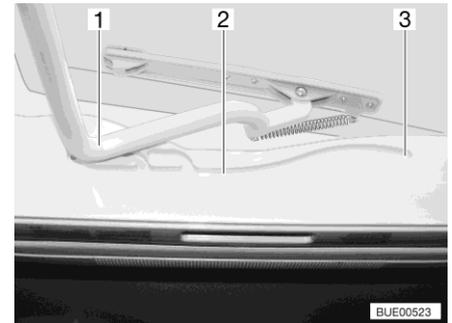

Fig. 112 Guide (Heki skylight)
- Pull the bar (Fig. 112,1) in the guides (Fig. 112,2) to the rearmost position (Fig. 112,3).
- Use both hands to push the bar (Fig. 112,1) slightly upwards.
- Pull the bar in the guides (Fig. 112,2) to the desired position.